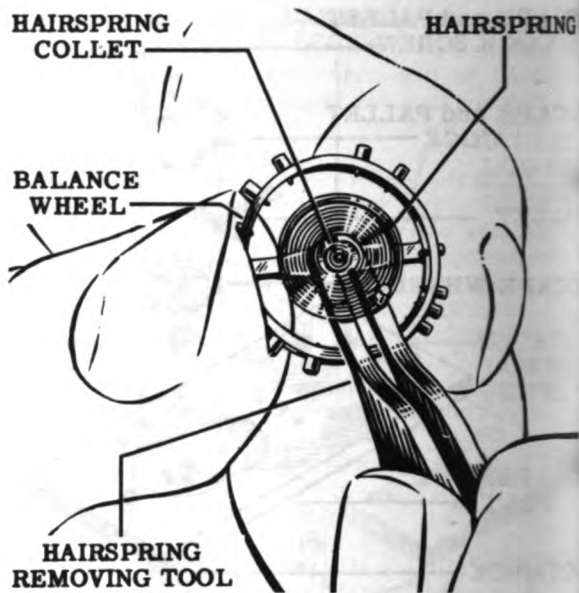

Figure 78
3. Remove the hairspring assembly from the balance by using the special tool (Tool No. 21A) to pry under and pull off the collet. For details see "Special Operations." See Figs. 78 and 79.